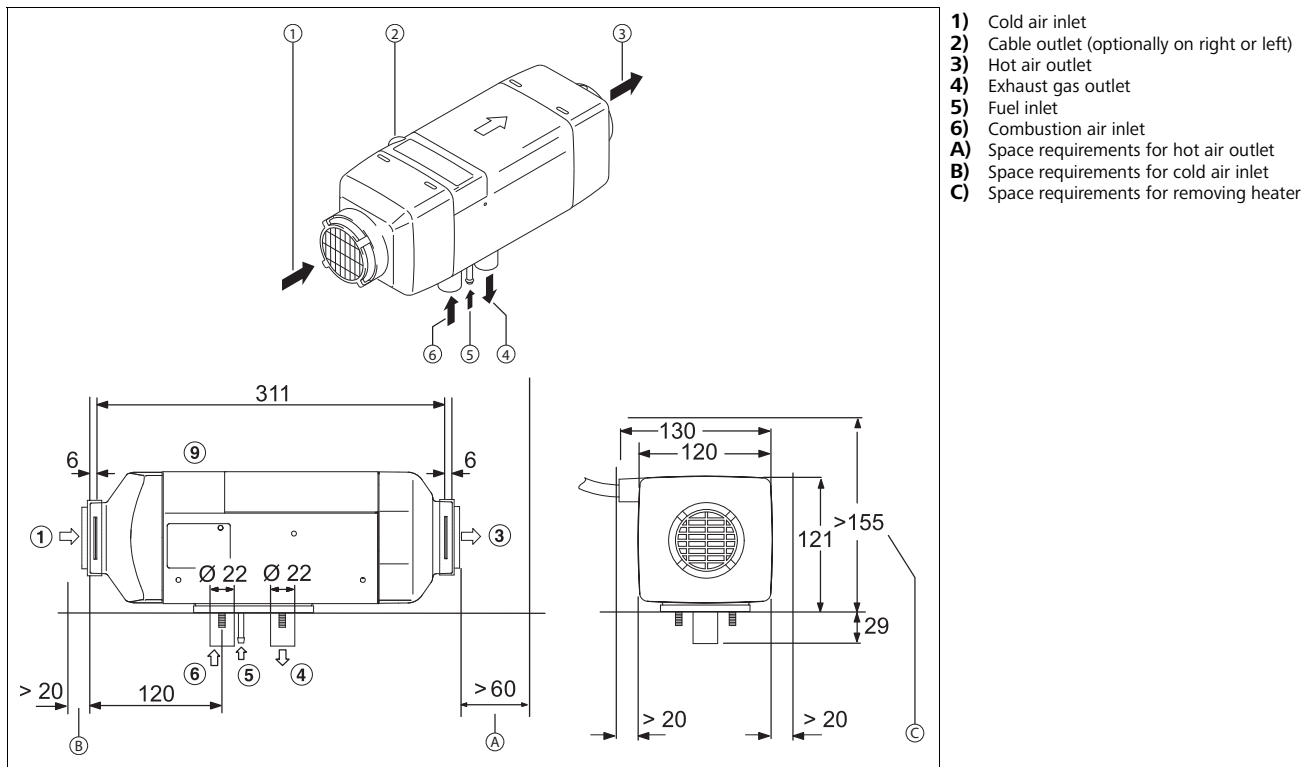
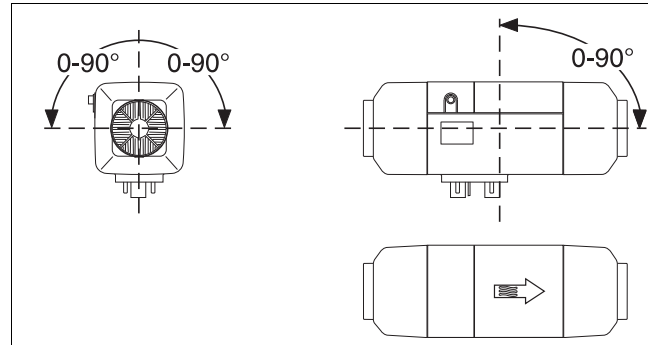

Fig. 4 Dimensions and space requirements [mm] Air Top 2000 ST
Fig. 8 Permissible installation positions of diesel-operated air heaters
see Fig. 4 and Fig. 8
- Do not exceed inclination angle (see Fig. 8).